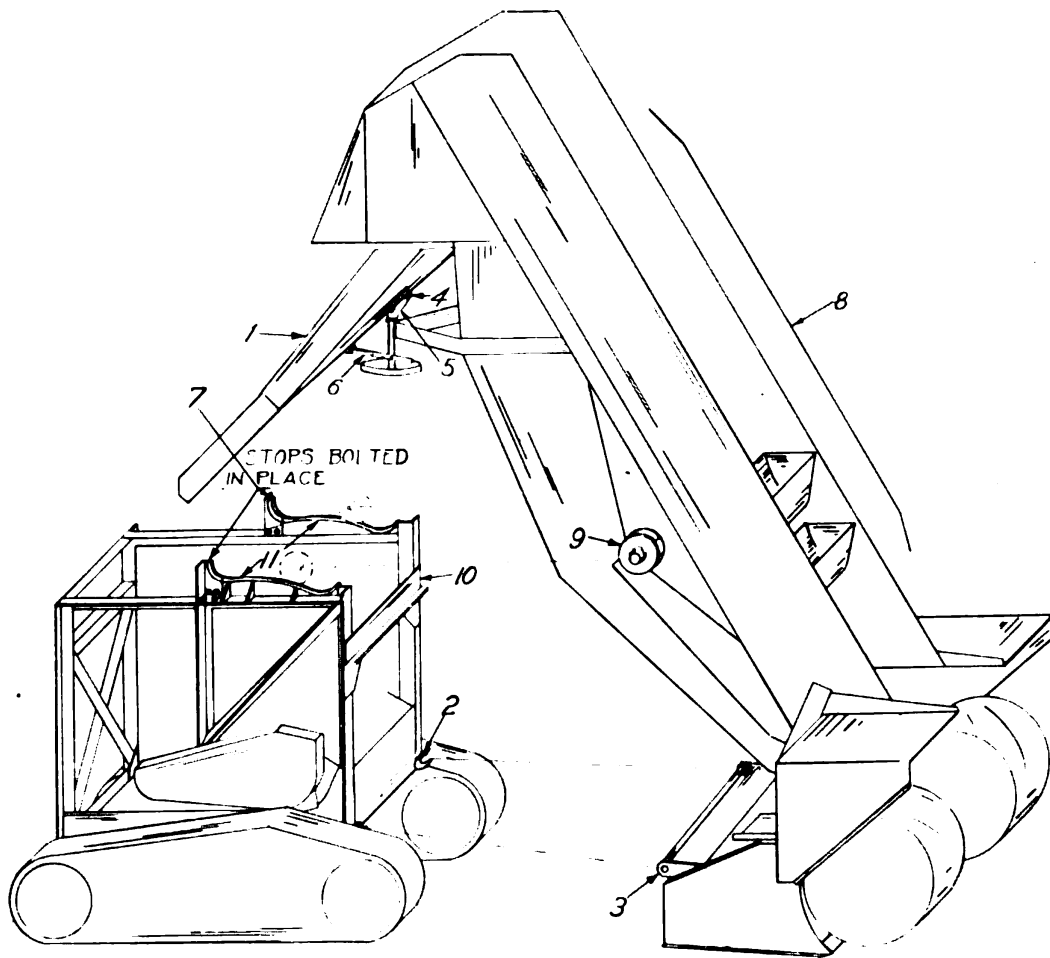
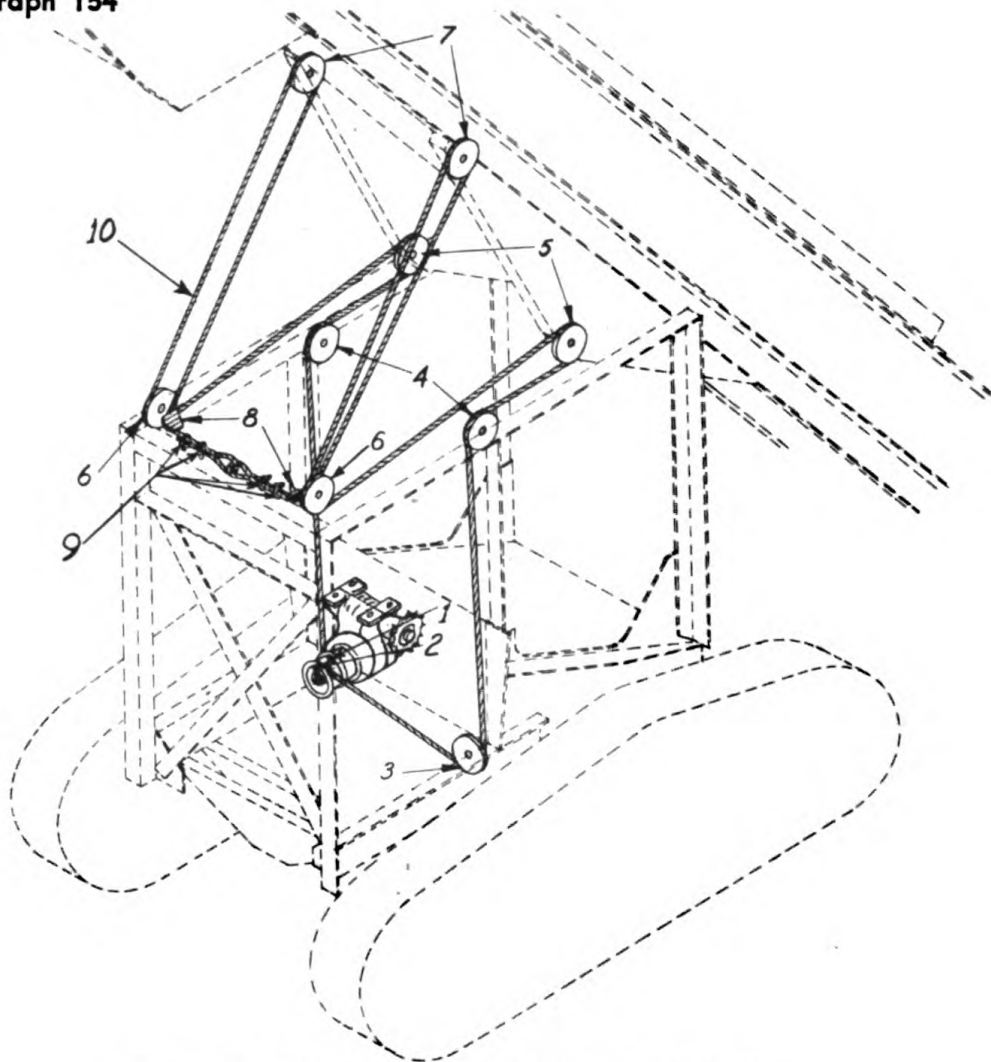

Figure 89. Placing bucket elevator.
Figure 91. Showing cables with elevator in place.
site operator. Remove brackets with eye bolts and sheave (5) tension springs, also scraper handwheel control bracket. These are bolted in the holes used for cross angle (10) figure 89. These track extensions should be stored with the boom.
The bucket elevator (8) Figure 89, must be raised to working position with a crane or with a hoist slung from an overhead "A" frame or overhead structure. Rest feed end on 8" blocks. Cable slings should connect to the elevator at the headshaft between the headshaft sprockets and take-up bearings. When the elevator is stored it may be lashed at this point and left in the working position.
Bolt pivot shaft track stops (7) Figure 89, to the ends of tracks (11) on both sides of the superstructure. Install sheaves (4), install sheaves number (8) Figure 91.
on track (11) Figure 89. Enter push arms (3) in U shape brackets (2) on the chassis. Insert push arm lock pins. Reave hoist cables as shown in phantom drawing (Figure 91). The bucket loader requires a shorter chain for the bucket line drive, therefore remove 32 links. These links should be stored with the snow loader as they will be required when the conveyor is again installed on the chassis.
The bucket line drive chain may now be connected and properly adjusted as explained under chain adjustment section. Bolt cross brace (10) Figure 89 to the front upright angles of the superstructure.